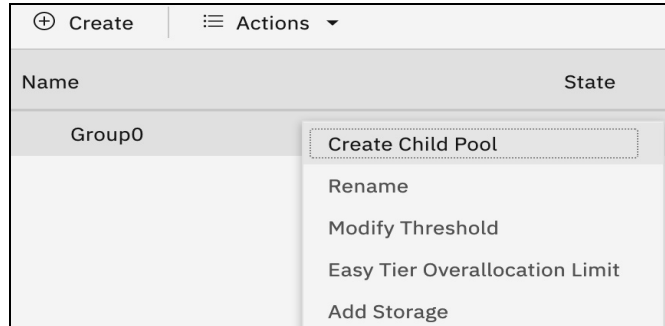

Figure 4-9 Right-clicking the parent pool actions menu
- b. Right-click the parent pool in which you want to create the child pool, as shown in Figure 4-9.